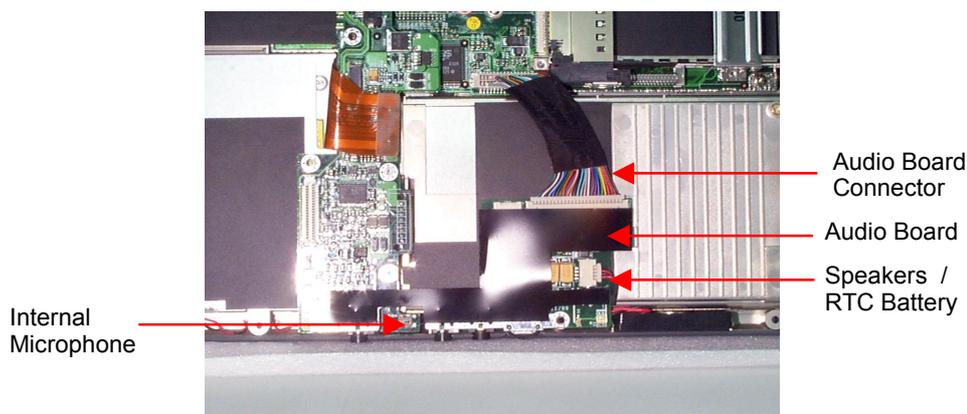

Figure 5-10 Audio Board Screws and Connectors Locations
3. There are three screws securing the audio board (see Figure 5-10). The screw on the right corner is secured on top of the audio board, while the other screw on the left is secured underneath the bottom case and beside the microphone jack. To replace the audio board, remove the two screws, and plug out all cables connected to it.